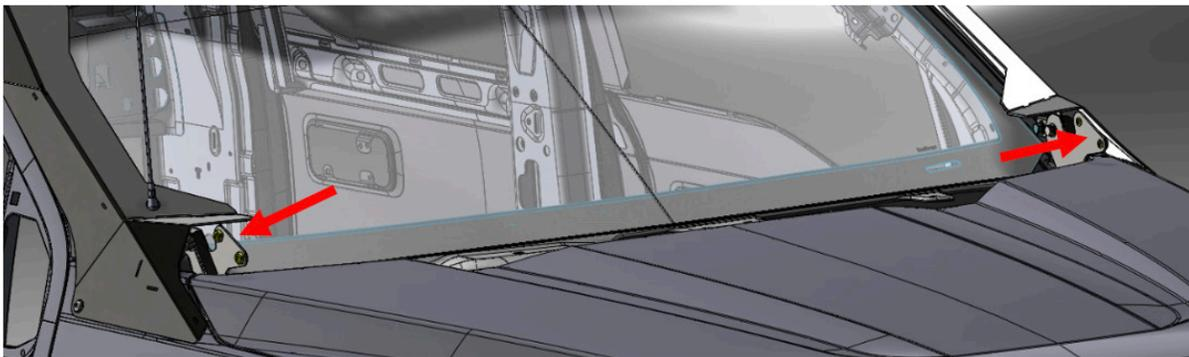

Figure 25.
**23. With assistance, lift the ViCowl assembly up over the hood and slowly lower it down on the mounting surface as shown in the image below indicated by the red arrows. Figure 25.**